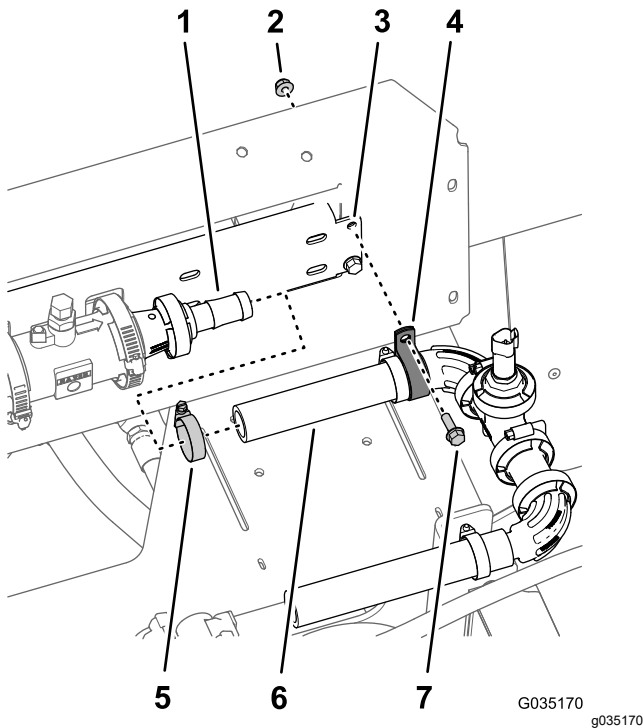

Figure 59
1. Assemble the hose (1 x 7-1/4 inches) that is attached to the pressure transducer and manifold (Figure 59) onto the barbed-flange fitting (1 inch).
2. Loosely secure the hose to the barbed-flange fitting with a hose clamp (Figure 59).
3. Secure the pressure transducer and manifold to the slot in the manifold mount with a R-clamp (Figure 59) and the flange-head bolt (1/4 x 3/4 inch), and flange locknut (1/4 inch) that you removed in step 5 of Disassembling the Boom-Section Valves from the Manifold Mount (page 25).